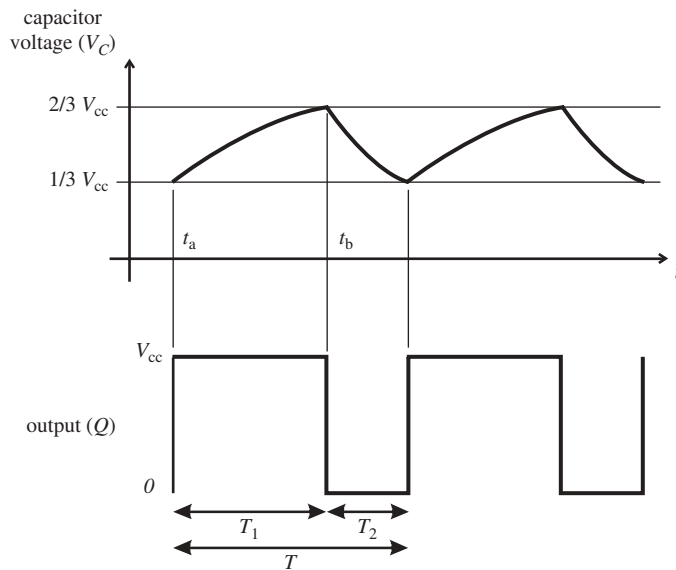

Figure 6.45 Astable multivibrator capacitor voltage and output signal.
Figure 6.45 shows how the capacitor voltage (V_C) and the output signal (Q) vary over time as the astable multivibrator cycle repeats. From Section 4.9, an RC circuit, which is a first-order system with time constant $\tau = RC$, charges in response to a step input V_{cc} as follows: